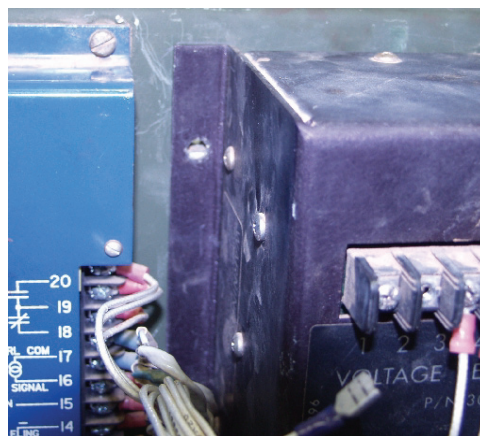

Figure 1 Location of fuse folder.
3. Remove the top left mounting screw for the Voltage Regulator (A1). (Figure 1.)